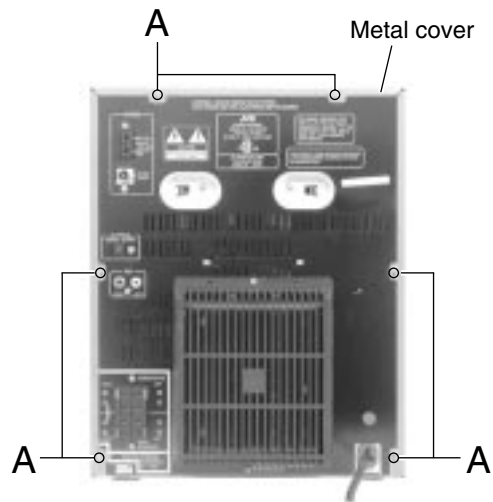

Fig.1
3. CD traverse unit is put up as shown in Fig.1.
(See Fig.1 to 3)